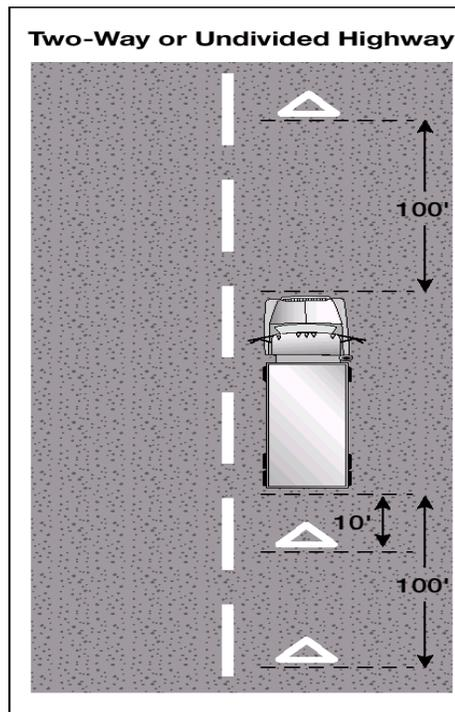

Figure 2.9
- ✓ If you stop on a two-lane road carrying traffic in both directions or on an undivided highway, place warning devices within 10 feet of the front or rear corners to mark the location of the vehicle and 100 feet behind and ahead of the vehicle, on the shoulder or in the lane you stopped in. See Figure 2.9.